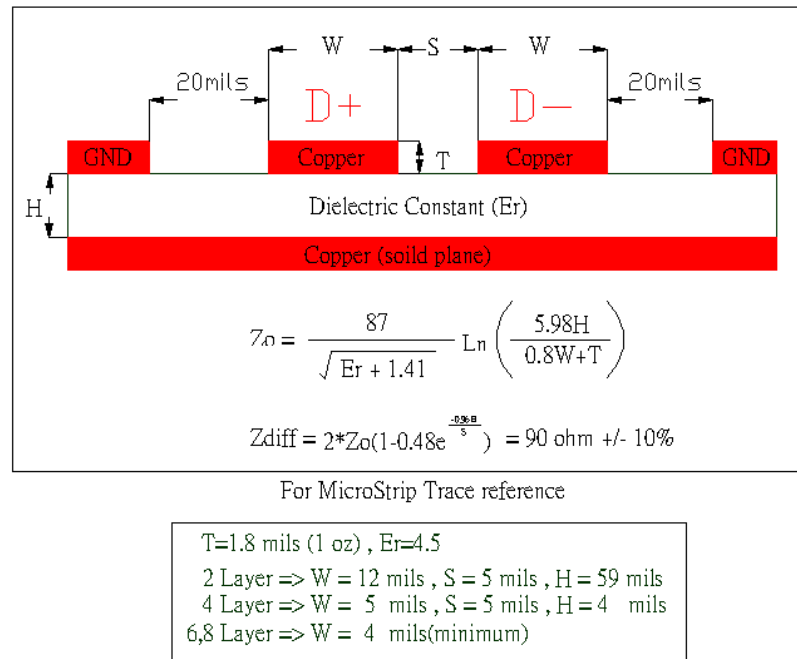

Figure 3. USB Differential Characteristic Impedance (Zdiff)
- Differential characteristic impedance of USB signal trace is $90\Omega \pm 10\%$ (see Figure 3, page 9)